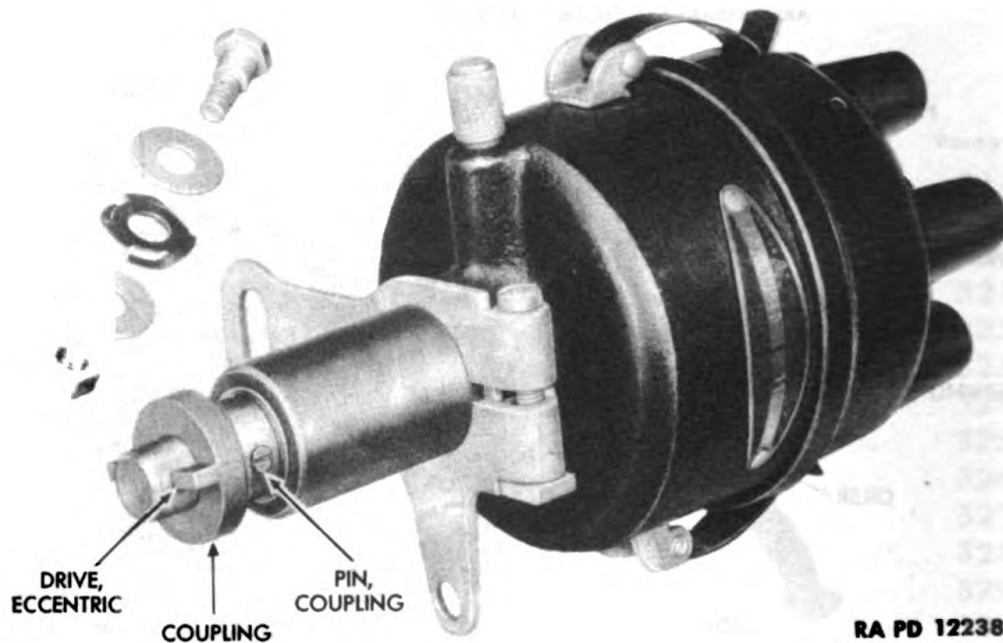

Figure 193—Distributor—Bottom View
- (3) Drive the coupling pin out of coupling at bottom of shaft and governor assembly with a punch (fig. 193). Remove coupling and flat thrust washer (fig. 194).